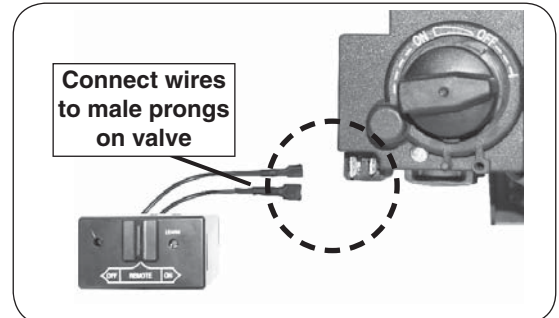

Fig. 14-3 Connect remote receiver to valve
2. Locate the wires coming off of the remote receiver, and connect them to the two male prongs found on the valve (see Fig. 14-3).